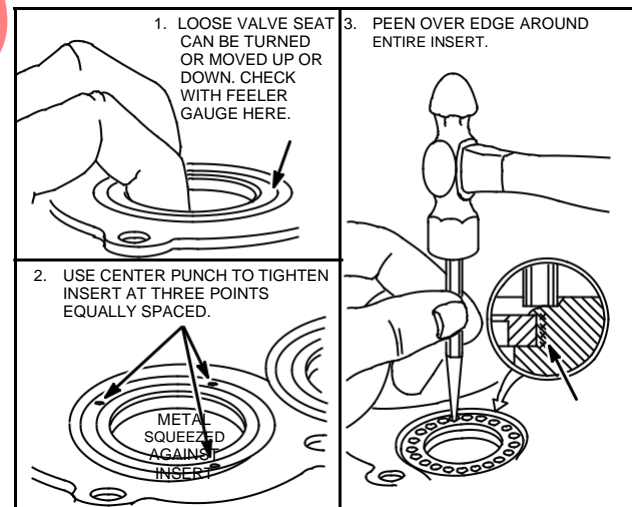

Fig. 24 – Peening Valve Seat
Check valve seat inserts for tightness. If seat can be rotated or moved up and down, check seat with .005" (.13 mm), feeler gauge, Fig. 24. If .005" feeler gauge cannot be inserted, peen seat with punch as shown, Fig. 24.
4. Peen new seat insert, Fig. 24.